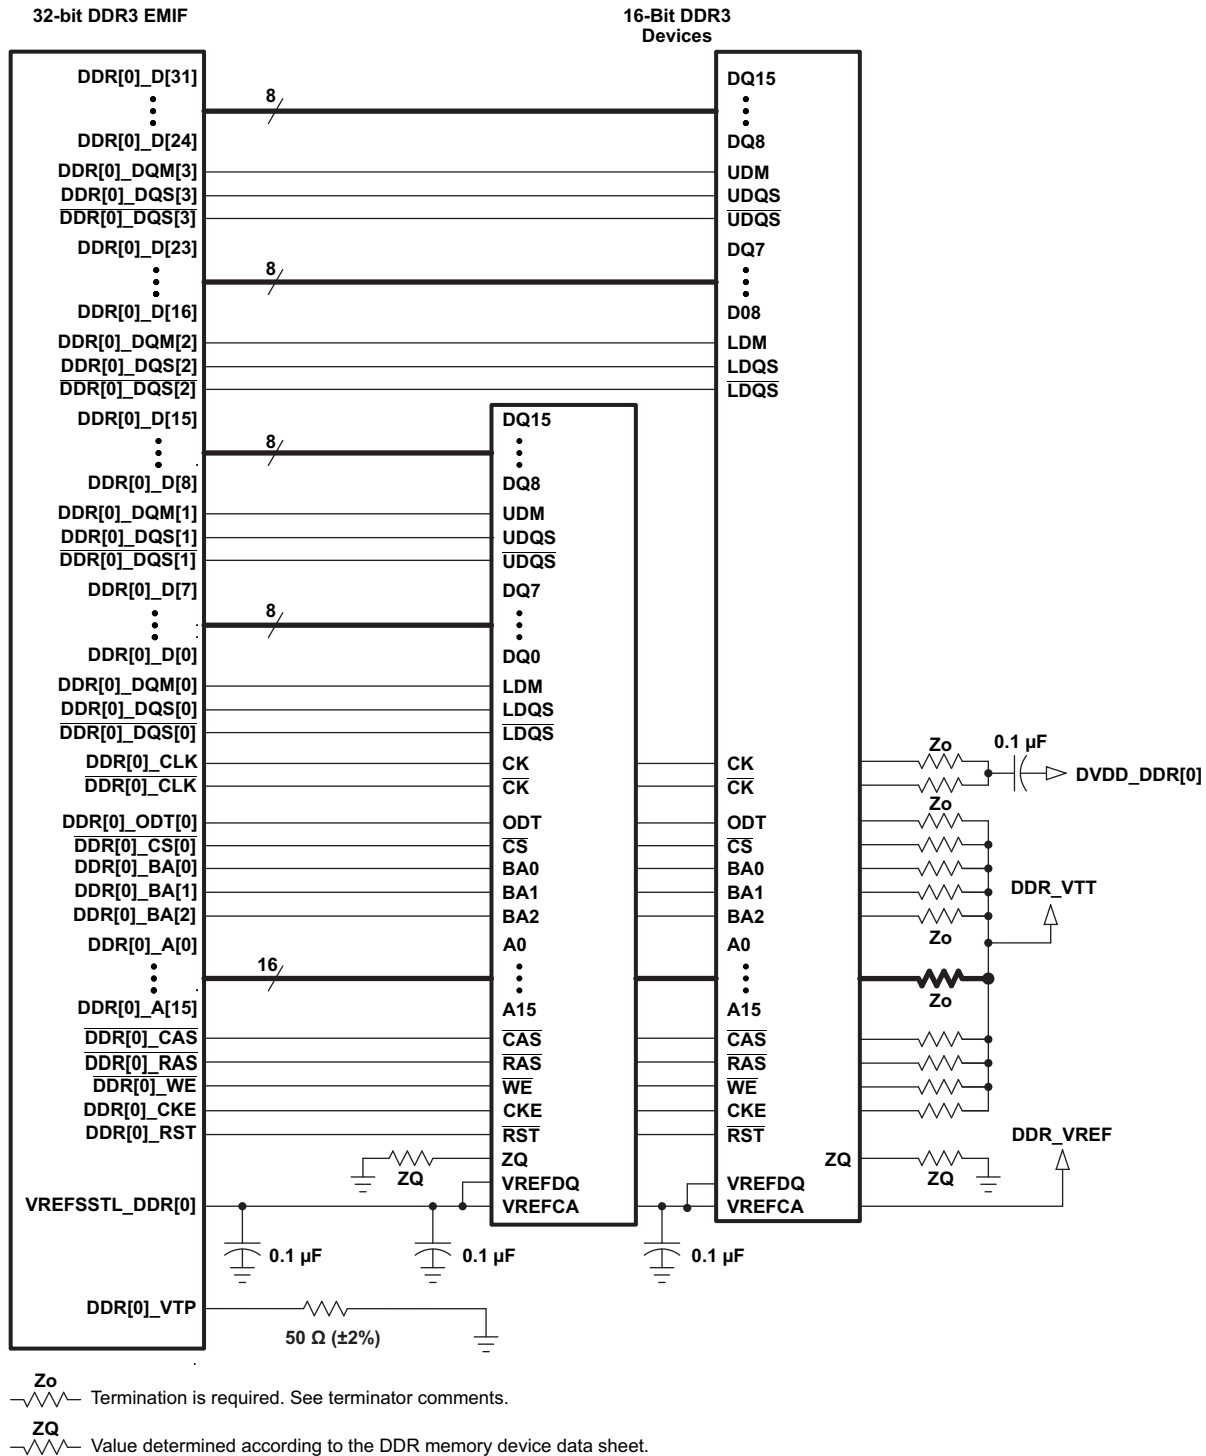

Figure 8-56. 32-Bit, One-Bank DDR3 Interface Schematic Using Two 16-Bit DDR3 Devices
The DDR3 interface schematic varies, depending upon the width of the DDR3 devices used and the width of the bus used (16 or 32 bits). General connectivity is straightforward and very similar. 16-bit DDR devices look like two 8-bit devices. Figure 8-56 and Figure 8-57 show the schematic connections for 32-bit interfaces using x16 devices.
Note that the 16-bit wide interface schematic is practically identical to the 32-bit interface (see Figure 8-56 and Figure 8-57); only the high-word DDR memories are removed and the unused DQS inputs are tied off. The processor `DDR[0]_DQS[2]` and `DDR[0]_DQS[3]` pins should be pulled to the DDR supply via 1-k Ω resistors. Similarly, the `DDR[0]_DQS[2]` and `DDR[0]_DQS[3]` pins should be pulled to ground via 1-k Ω resistors.
(1) DDR3 speed grade depends on desired clock rate. Data rate is 2x the clock rate. For DDR3-800, the clock rate is 400 MHz.
(2) DDR3 devices with higher speed grades are supported; however, max clock rate will still be limited to 533 MHz as stated in Table 8-59 *Switching Characteristics Over Recommended Operating Conditions for DDR3 Memory Controller*.
(3) For valid DDR3 device configurations and device counts, see Section 8.13.3.3, Figure 8-56, and Figure 8-57.